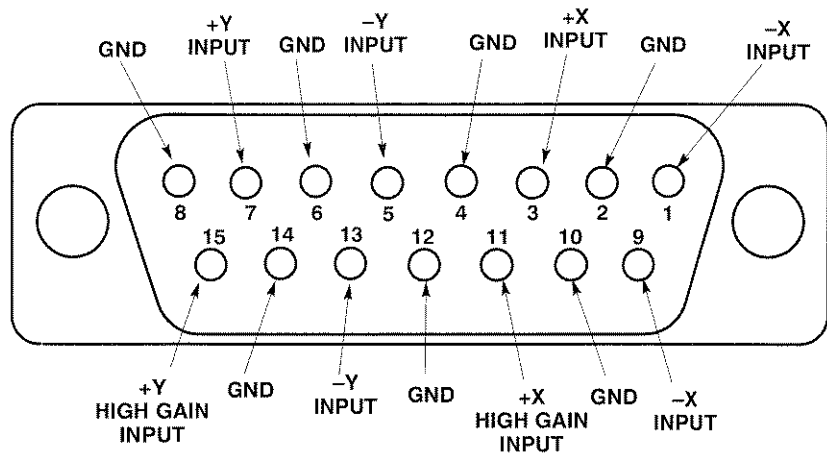

Figure 5-15: X Y INPUT connector pin functions.
- b. Connect the Audio Signal Generator output to the X INPUT. See Figure 5-15.